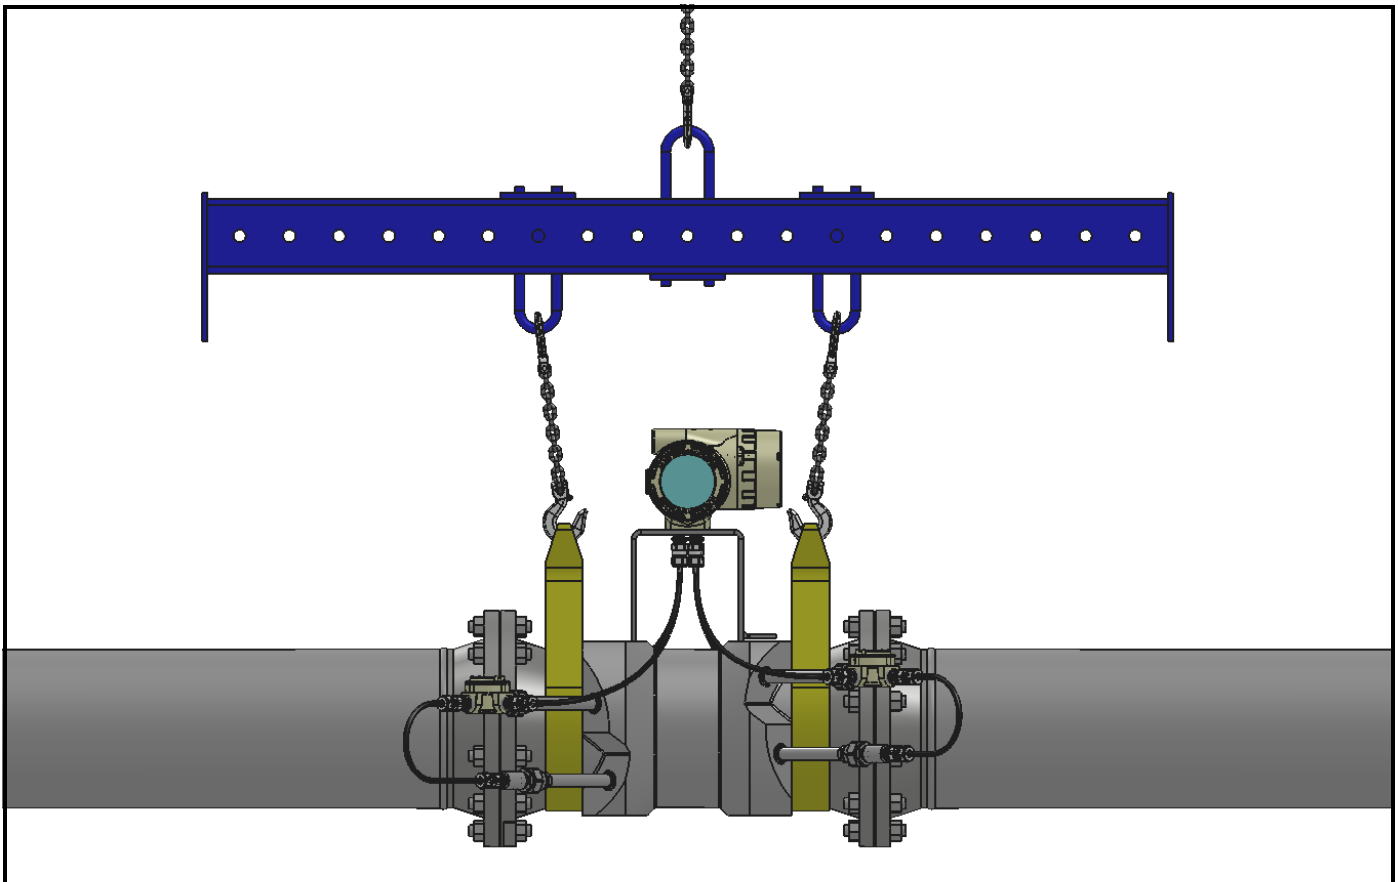

Figure 9: Lifting Strap Locations
CAUTION! To avoid possible strain, refer to the Sentinel LCT label for the assembly weight, use a properly-rated lifting assembly, and place the lifting straps in the indicated locations (see Figure 9 below).
- Make sure the Sentinel LCT is oriented with the flow transmitter in a vertical position at the top (see Figure 9 below).